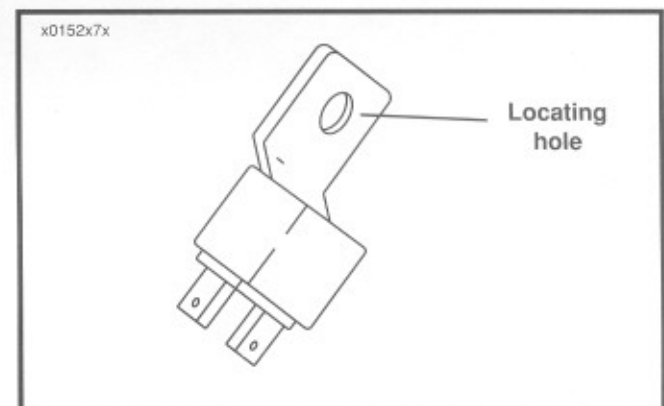

Figure 7-4. Starter Relay
- See Figure 7-4. Position locating hole in relay over raised tab on electrical bracket and push into position.